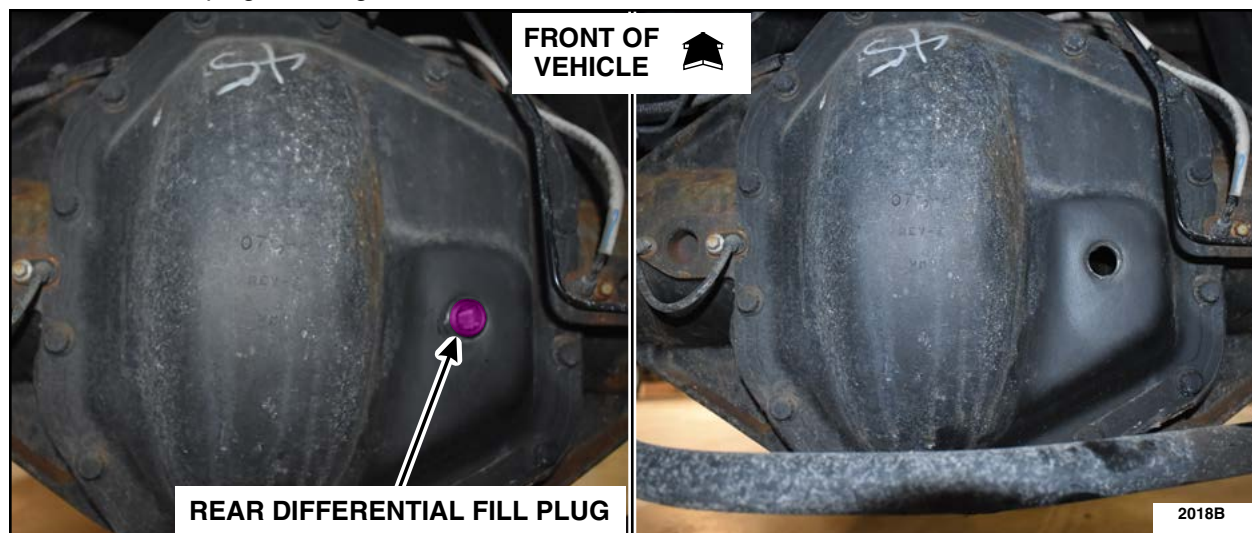

FIGURE 2
3. Clean any dirt, debris and fluid from around the rear differential fill plug, then remove the rear differential fill plug. See Figure 2.